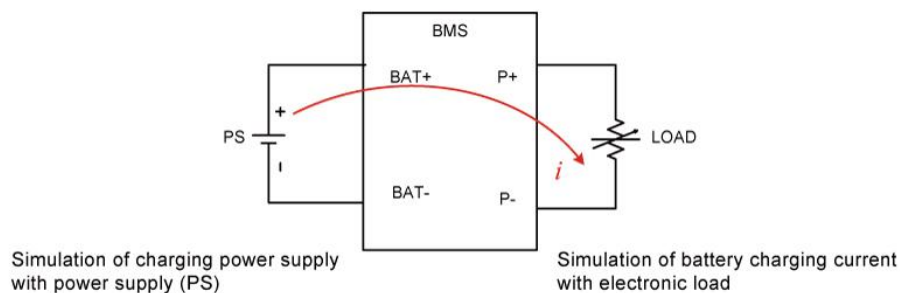

Figure 2.10 Equivalent simulation of BMS discharge
**2.4 Over current discharge protection (OCDP) test method: Power supply (PS) & LOAD connection and test procedures are shown in Figure 2.10.**